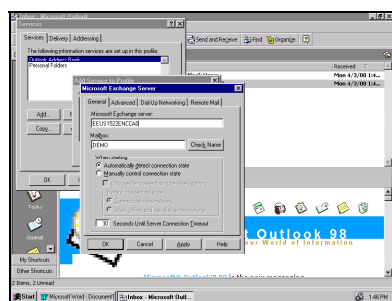

FIGURE II.7
- 7) You may get a screen like the one depicted in figure II.7. If you do, just click on the “check name” box and wait for the system to underline your name, then click on the “apply” button and then the “OK” button.